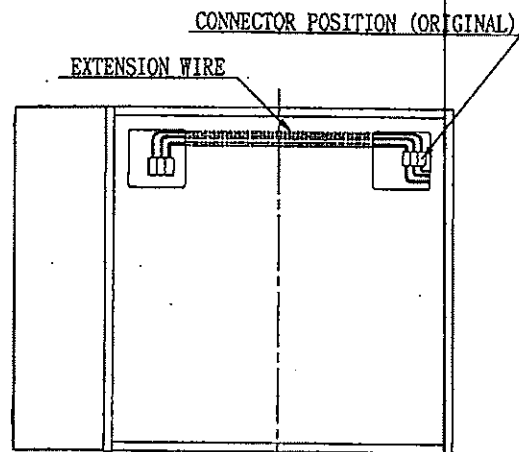

Fig. 11.6
- ③ Connect the Extension Wire (an accessory) to Control Tower L wire and change the position of the connection with Control Tower U as shown below. Secure the wire with clamps. Make sure that all of the 5 Connectors are connected (Fig. 11.6).